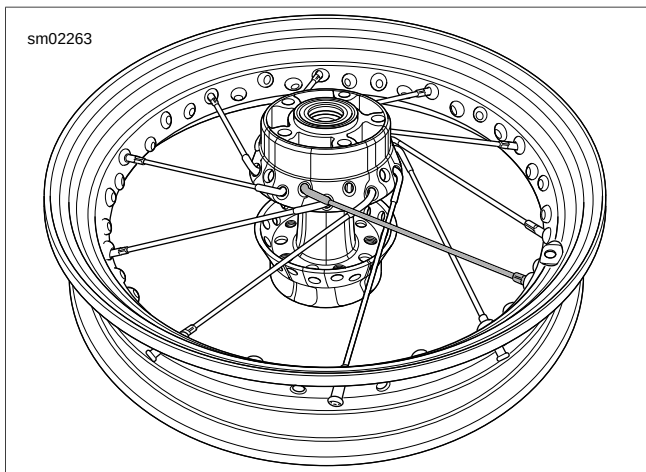

Figure 2-25. Brake Side Up: Start First Spoke of Top Row
5. See Figure 2-25. Place first **upper** row spoke into hub as shown. Angle spoke counterclockwise, **crossing four lower row spokes**. Spoke must enter hole to left of valve stem hole.